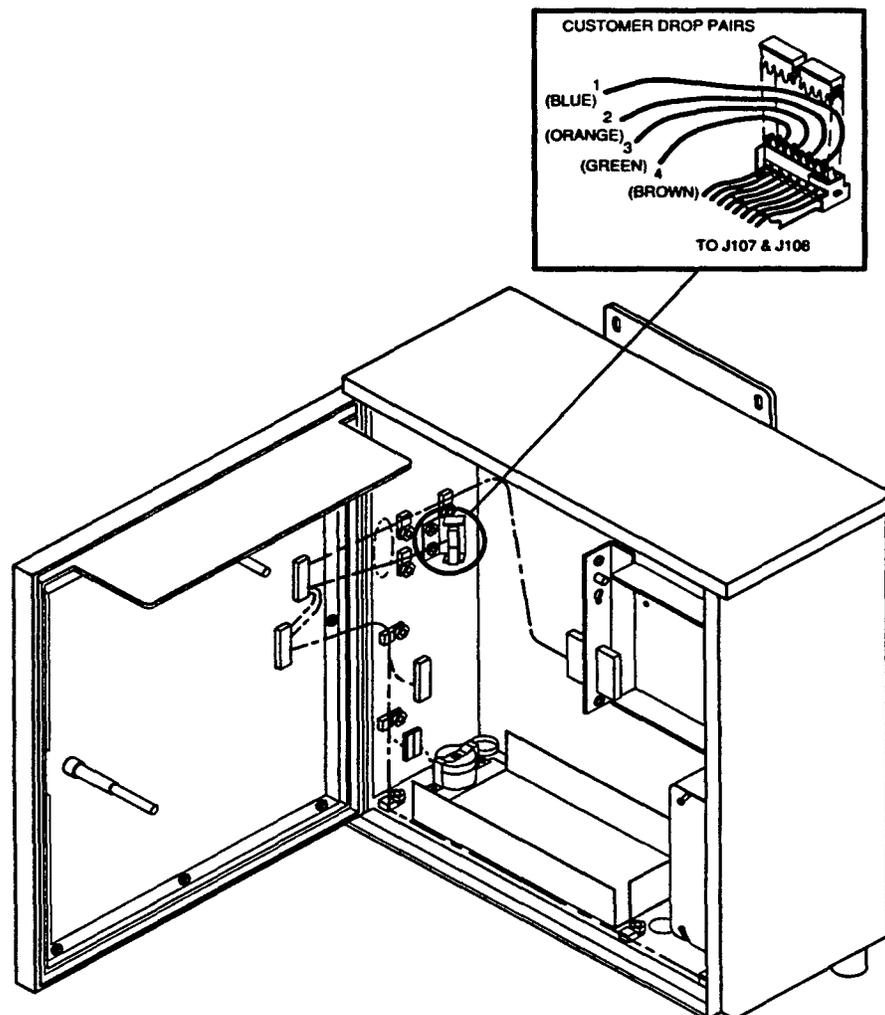

Figure 1—Customer Drop Pairs Access in DT Cabinet
5. For **BUSY** indicator, verify no channels are in use. At 108 connect block (Fig. 1) remove Tip-Ring pairs to NIU and observe **BUSY** indicator.